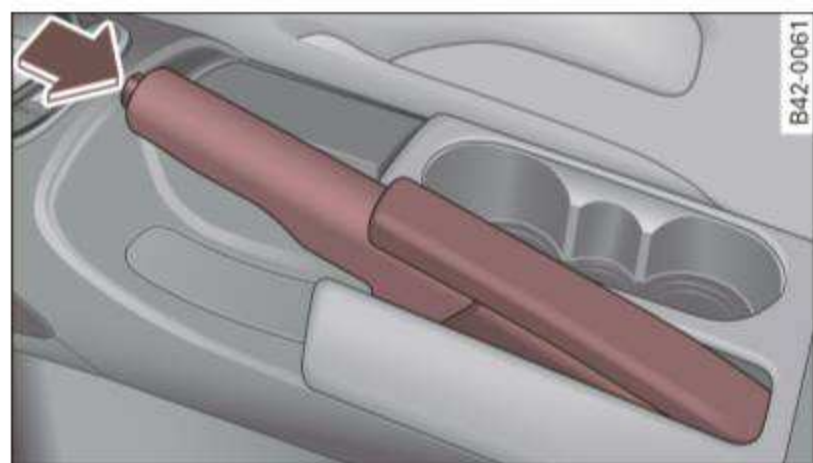

Fig. 66 Center console: Parking brake set
- Pull the parking brake lever up slightly *and* press the release button at the same time ⇒ fig. 66 - arrow -.